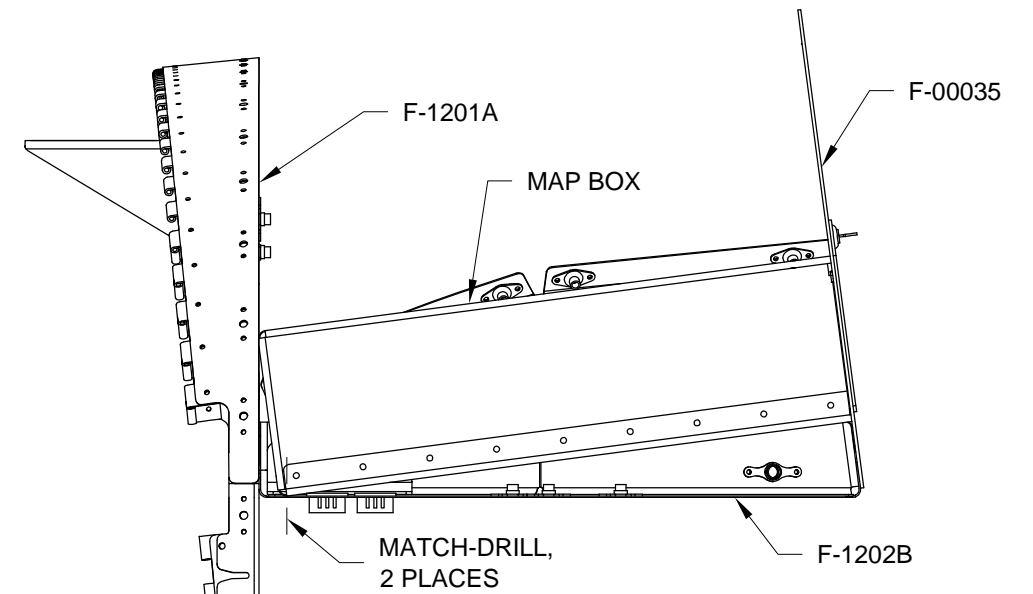

FIGURE 2: MATCH-DRILLING MAP BOX
Match-drill #19 through the holes into the F-1202B Panel Base. See Figure 2.
Step 3: Remove the Map Box Assembly and deburr holes. See Figure 2.